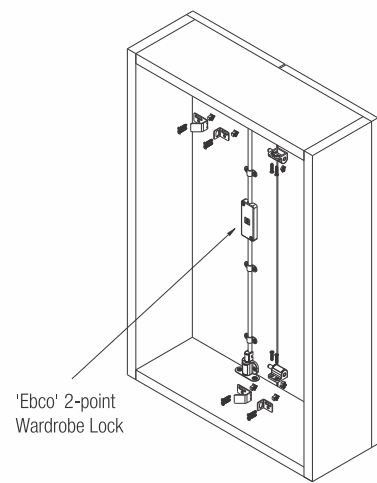

Fig. 3
5. Fix the lock in the second shutter, such that when locked, the lever gets engaged to the first shutter. Refer Fig. 2 and Fig. 3.